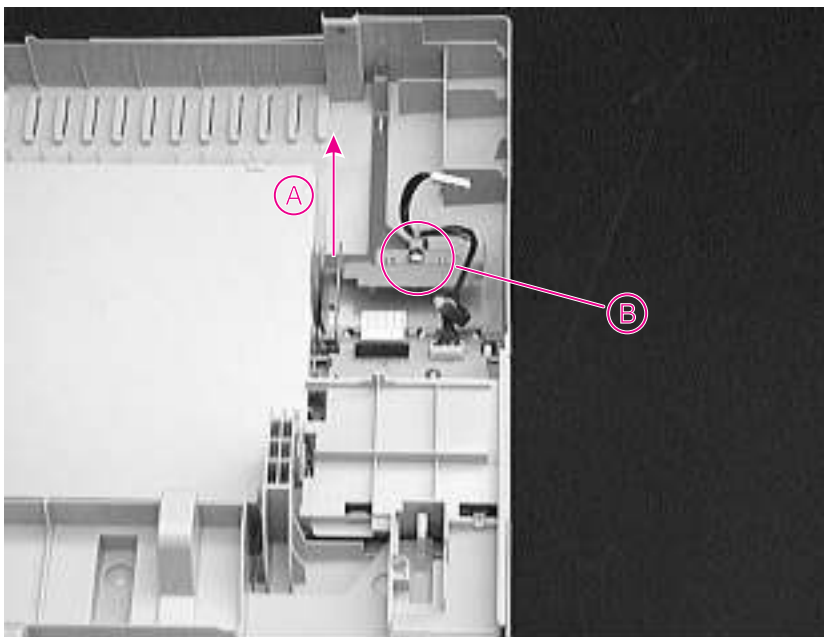

Figure 6-8 Back Side of Top Cover
- 6 Grasp the Control Panel by the metal frame and remove it from the underside of the Top Cover. See Figure 6-8, “Back Side of Top Cover,” on page 6-16.